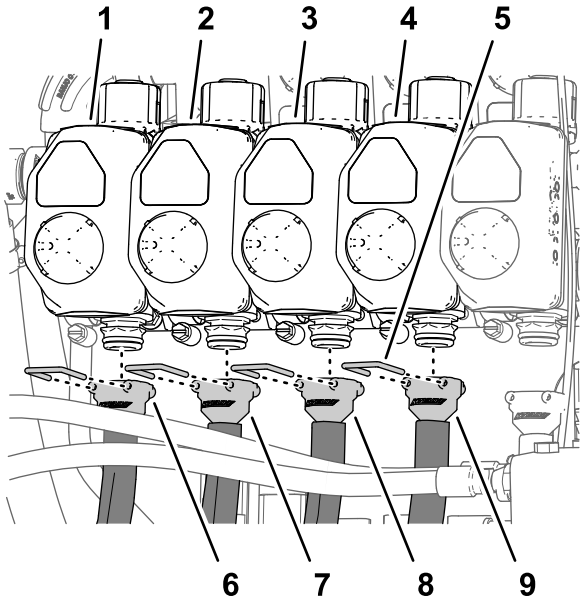
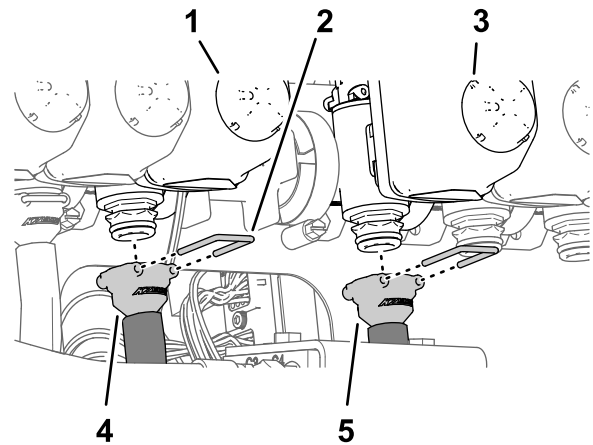
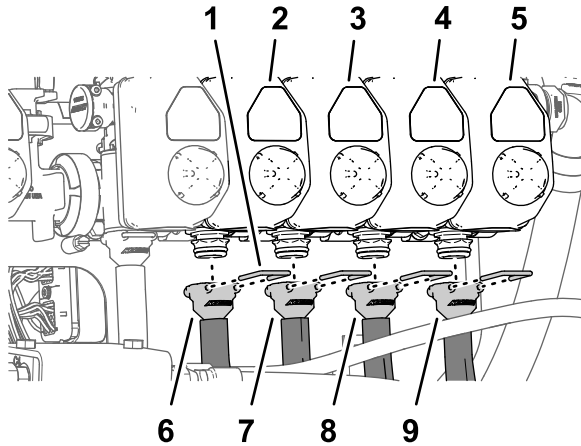

Figure 126
Figure 127
Figure 128
**Note:** Refer to Figure 126 in Assembling the Hoses to Nozzle Valves 1 through 4 \(page 60\), Figure 127 in Assembling the Hoses to Nozzle Valves 5 and 6 \(page 60\), and Figure 128 in Assembling the Hoses to Nozzle Valves 7 through 10 \(page 61\) for the nozzle-valve positions.
1. Assemble the straight barbed fitting of a supply-hose 279 cm (110 inches) onto the coupler of nozzle valve 1 (Figure 126).
2. Secure the barbed fitting to the coupler with a retainer (Figure 126).
3. Assemble the straight barbed fitting of a supply-hose 234 cm (92 inches) onto the coupler of nozzle valve 2 (Figure 126).
4. Secure the barbed fitting to the coupler with a retainer (Figure 126).
5. Assemble the straight barbed fitting of a supply-hose 188 cm (74 inches) onto the coupler of nozzle valve 3 (Figure 126).
6. Secure the barbed fitting to the coupler with a retainer (Figure 126).
7. Assemble the straight barbed fitting of a supply-hose 188 cm (74 inches) onto the coupler of nozzle valve 4 (Figure 126).
8. Secure the barbed fitting to the coupler with a retainer (Figure 126).
1. Assemble the straight barbed fitting of a supply-hose 81 cm (32 inches) onto the coupler of nozzle valve 5 (Figure 127).
2. Secure the barbed fitting to the coupler with a retainer (Figure 127).
3. Assemble the straight barbed fitting of a supply-hose 81 cm (32 inches) onto the coupler of nozzle valve 6 (Figure 127).
4. Secure the barbed fitting to the coupler with a retainer (Figure 127).
1. Assemble the straight barbed fitting of a supply-hose 188 cm (74 inches) onto the coupler of nozzle valve 7 (Figure 128).
2. Secure the barbed fitting to the coupler with a retainer (Figure 128).
3. Assemble the straight barbed fitting of a supply-hose 188 cm (74 inches) onto the coupler of nozzle valve 8 (Figure 128).
4. Secure the barbed fitting to the coupler with a retainer (Figure 128).
5. Assemble the straight barbed fitting of a supply-hose 234 cm (92 inches) onto the coupler of nozzle valve 9 (Figure 128).
6. Secure the barbed fitting to the coupler with a retainer (Figure 128).
7. Assemble the straight barbed fitting of a supply-hose 279 cm (110 inches) onto the coupler of nozzle valve 10 (Figure 128).
8. Secure the barbed fitting to the coupler with a retainer (Figure 128).